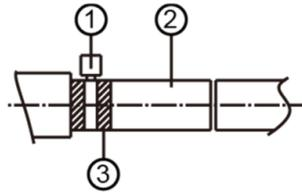

Fig 4.3.2
- (1) Insert the drain hose into the drain hole and tighten it with tapes, as shown in Fig 4.3.2.
- (2) Tighten the pipe clamp, with the distance between screw nut and hose smaller than 4mm (3/16 in.).
- ① metal clamp(accessory)
- ② drain hose(accessory)